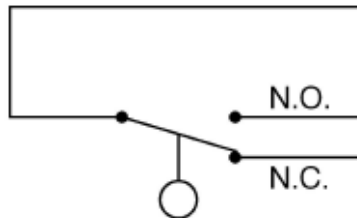

Fig. 2 SPDT wiring diagram Dry Condition
2. SPDT reed switch: Connect wiring to proper switch leads or terminals per wiring diagram. See figure 2 or 5.